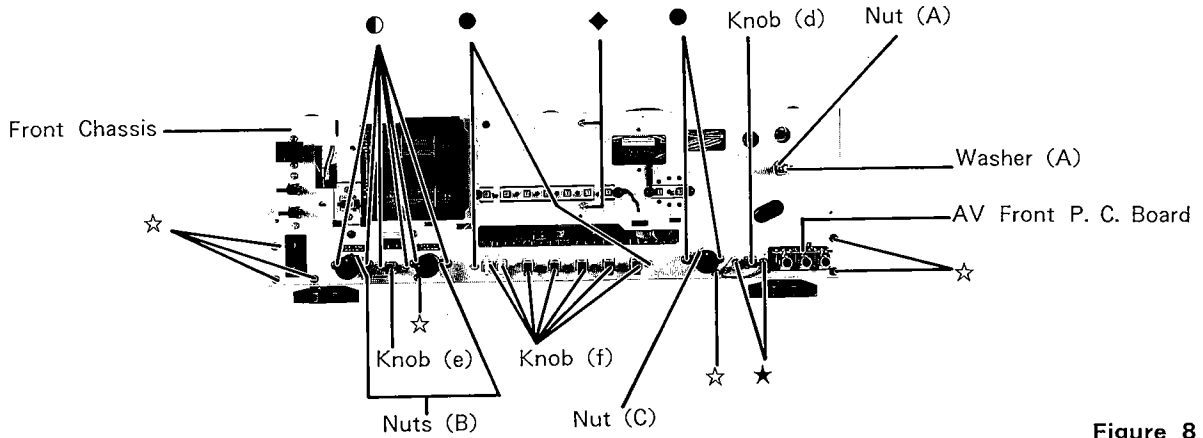

Figure 8
- (1) After removal of Front Escutcheon, remove seven screws marked "☆" as shown in Figure 8.
(2) Remove Front Chassis upward and then proceed to items 7-1~7-10.
- (1) Remove two screws marked "◆" as shown in Figure 8.
(2) Disconnect all wires from the Driver P. C. Board.
- (1) Remove one nut (A) and one washer (A) as shown in Figure 8.
- (2) Disconnect all wires from the Volume Control P. C. Board.
- (1) Remove one knob (e) and six screws marked "●" as shown in Figure 8.
- (2) Remove two nuts (B) as shown in Figure 8.
- (3) Disconnect all wires from the Tone Control P. C. Board.
- (2) Remove one nut (c) as shown in Figure 8.
- (1) Remove one knob (d) and remove two screws marked "★" as shown in Figure 8.
- (2) Disconnect all wires from the AV Front P. C. Board.